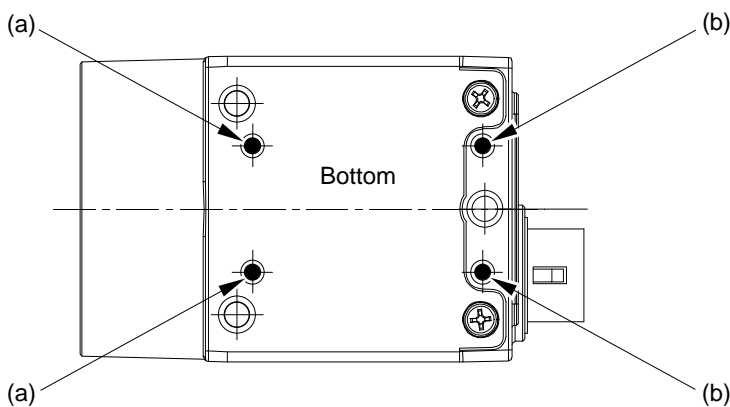
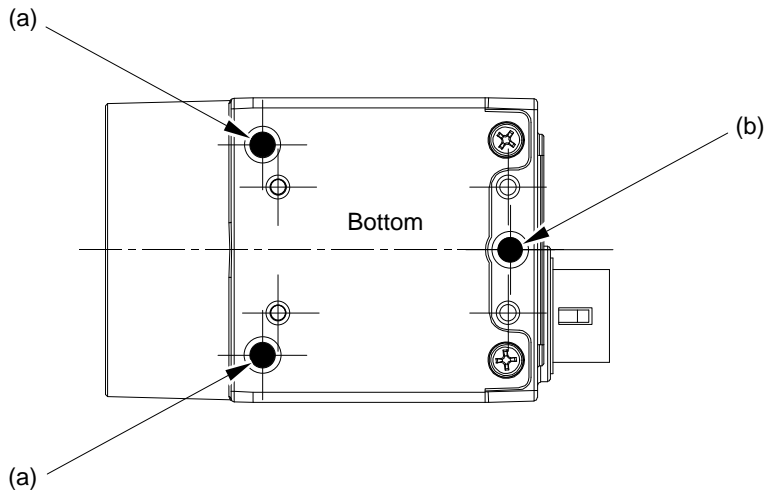

Fig. 23: Designations of the Mounting Screw Holes for the M2 Screws.
Fig. 24: Designations of the Mounting Screw Holes for the M3 Screws.
The tightening sequences are illustrated in Figure 23 and Figure 24 for cameras with C-mount adapters. However, the tightening sequences apply equally to cameras with CS-mount adapters.
1. Tighten the screws for the mounting screw holes (a) in Figure 23.
2. Tighten the screws for the mounting screw holes (b) in Figure 23.
1. Tighten the screws for the mounting screw holes (a) in Figure 24.
2. Tighten the screw for mounting screw hole (b) in Figure 24.